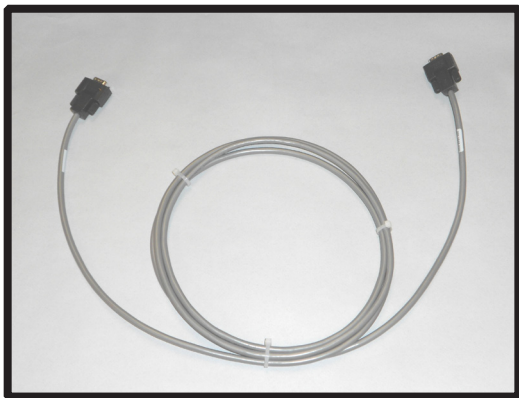
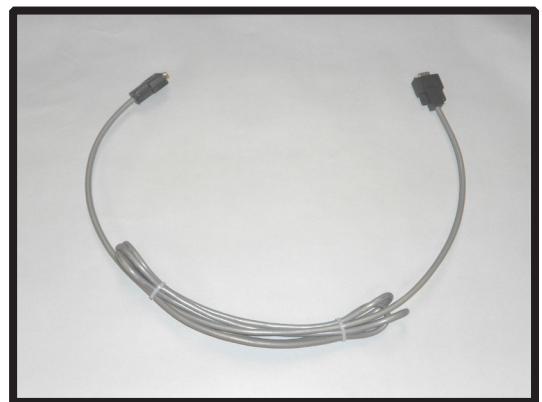

Figure 3-4 Cable Slack Take-up - Correct
Figure 3-5 Cable Slack Take-up - Incorrect
When taking up slack in cables, the extra length should be coiled up as shown in Figure 3-4 rather than folded as shown in Figure 3-5.
1. Ground the generator chassis using the supplied 14-Gauge wire, and attach it to the grounding stud: **A** in Figure 3-4.
2. Attach the hand probe's HD-15 system input connector to J2 on the I/O panel: **B** in Figure 3-4.
3. Attach high-voltage coaxial cable to J1, the ultrasound output connector: **C** in Figure 3-4.
4. Connect the AC power cord to the IEC power inlet connector on the ultrasonic generator (**D** in Figure 3-4), and plug the other end into an approved AC outlet.